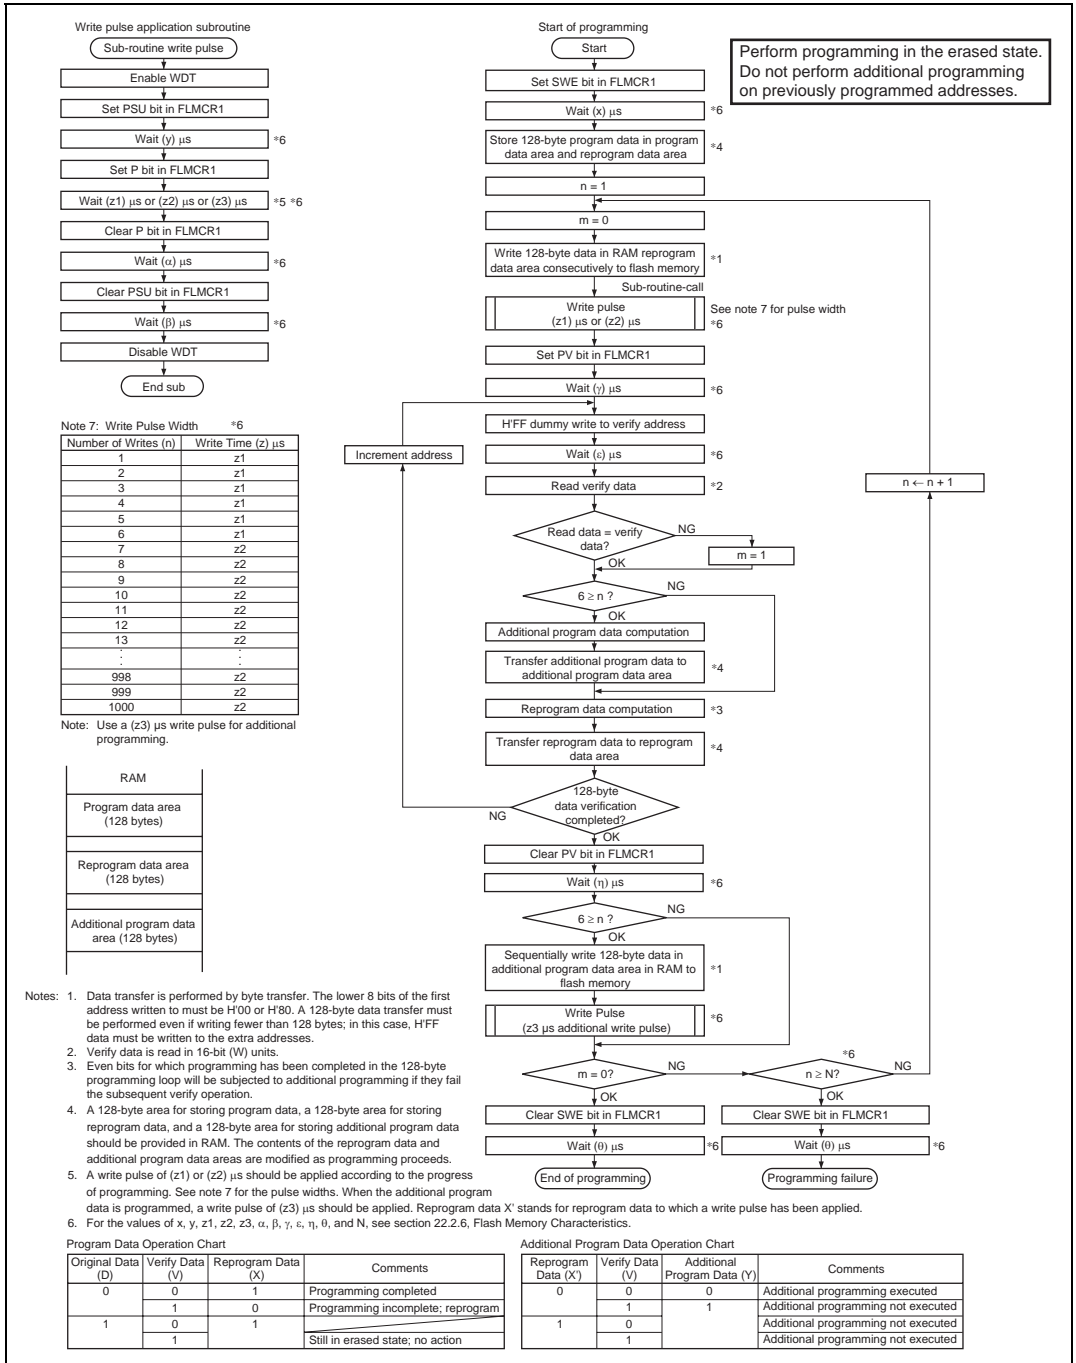

Figure 19.14 Program/Program-Verify Flowchart
Follow the procedure shown in the program/program-verify flowchart in figure 19.14 to write data or programs to flash memory. Performing program operations according to this flowchart will enable data or programs to be written to flash memory without subjecting the device to voltage stress or sacrificing program data reliability. Programming should be carried out 128 bytes at a time.
After the elapse of a given programming time, the programming mode is exited (the P bit in FLMCR1 is cleared to 0, then the PSU bit is cleared to 0 at least (α) μs later). Next, the watchdog timer is cleared after the elapse of (β) μs or more, and the operating mode is switched to program-verify mode by setting the PV bit in FLMCR1. Before reading in program-verify mode, a dummy write of H'FF data should be made to the addresses to be read. The dummy write should be executed after the elapse of (γ) μs or more. When the flash memory is read in this state (verify data is read in 16-bit units), the data at the latched address is read. Wait at least (ε) μs after the dummy write before performing this read operation. Next, the originally written data is compared with the verify data, and reprogram data is computed (see figure 19.14) and transferred to the reprogram data area. After 128 bytes of data have been verified, exit program-verify mode, wait for at least (η) μs , then clear the SWE bit in FLMCR1 to 0, and wait again for at least (θ) μs . If reprogramming is necessary, set program mode again, and repeat the program/program-verify sequence as before. However, ensure that the program/program-verify sequence is not repeated more than (N) times on the same bits.